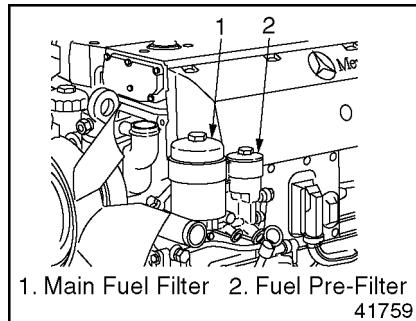

Figure 40 Fuel Filters
2. Clean the outside of the prefilter housing. Keep fuel away from hoses or pipes located beneath the filter. See Figure 40.
2. Clean the outside of the fuel filter housing. See Figure 40.